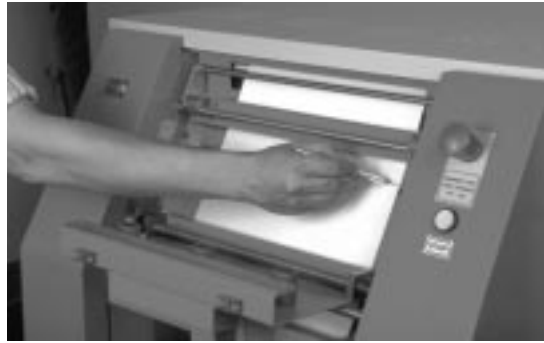

Figure 188. Cutting the Paper
- 3 Cut across the width of the paper along the cutting edge with a sharp knife, as shown in Figure 188.